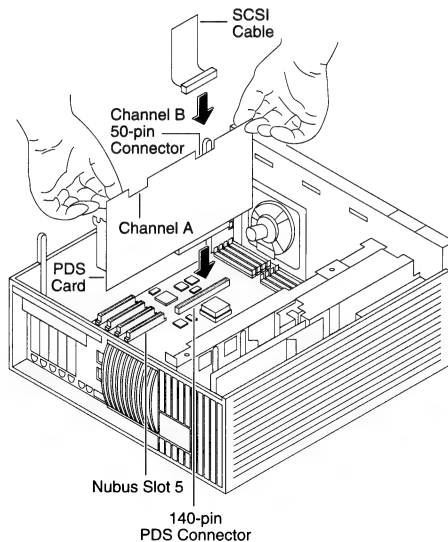

Figure 7 PDS Card Installation
5. Install the Workgroup Server 95 PDS card in the 140-pin PDS connector next to the power supply in front of NuBus slot 5 (see Figure 7).
6. Connect the SCSI data cable to the 50-pin connector (labeled Channel B) at the top of the Workgroup Server 95 PDS card (see Figure 7).